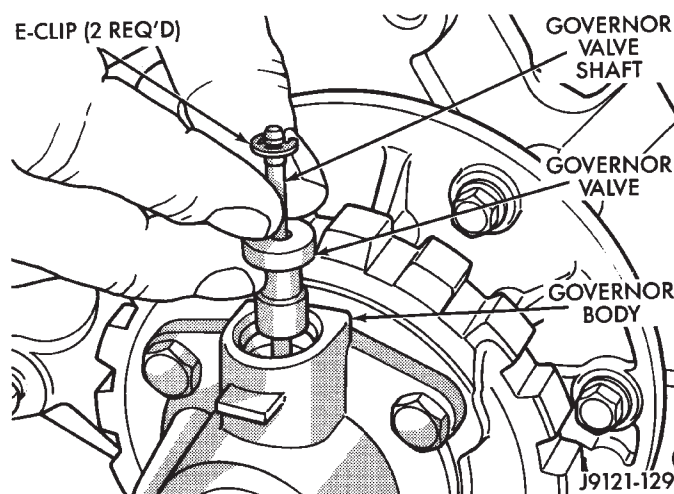

Fig. 138 Installing Governor Valve And Shaft
(6) Install first E-clip on governor valve shaft. Then install governor valve and shaft in governor body (Fig. 138). **Be sure valve shaft moves freely**